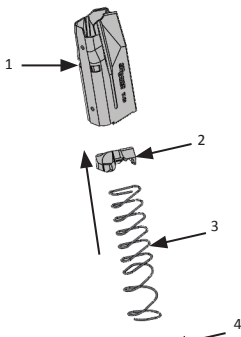

Figure 1
1. Install the follower (Figure 1, Item 2) to the magazine spring (Figure 1, Item 3).
2. Install the insert (Figure 1, Item 4) to the magazine spring.
3. Insert the follower into the magazine tube (Figure 1, Item 1) and compress the spring.